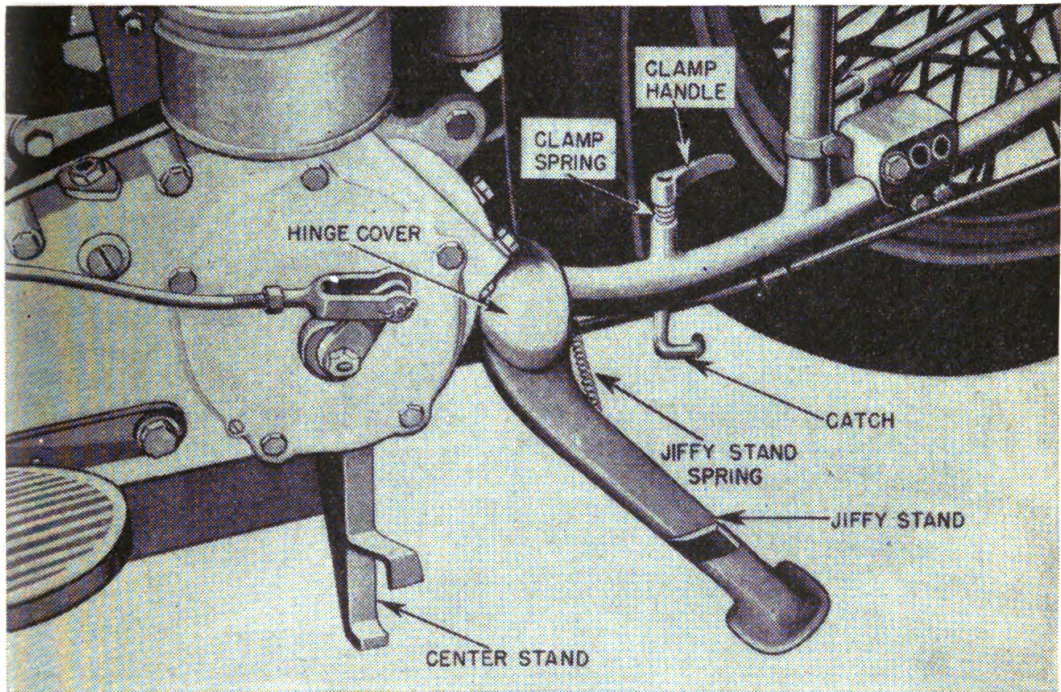

FIGURE 108.—Center and “jiffy” stands.
*b. Center stand.*—On some motorcycles a center stand takes the place of the rear stand. It is located directly under the frame (fig. 108), slightly to the rear of the engine. It is hinged to the frame and is held in a traveling position by a clamp at the lower side of the rear fender. When the clamp is pushed down and turned out, the stand drops to the ground. When the motorcycle is pulled up
c. *"Jiffy" stand*.—The "jiffy" stand (fig. 108) is located on the side of the motorcycle just to the rear of the footboard. It is anchored to